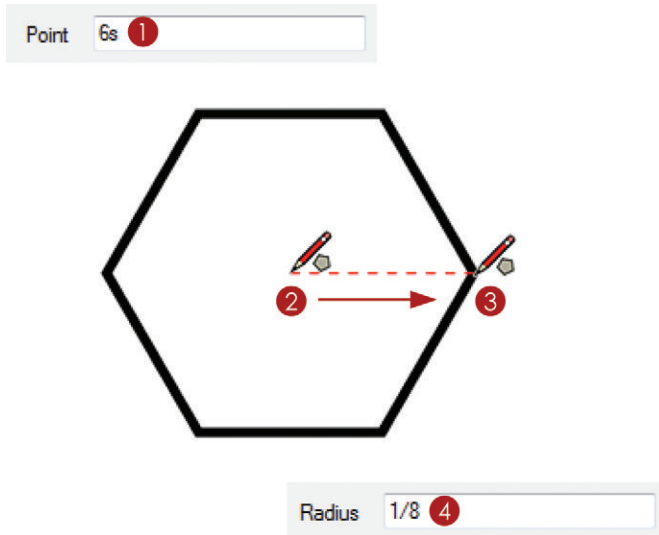

Figure 13.14 Create a precise polygon for the window tag.
1. Activate the Polygon tool, set the stroke width to .5, and turn off the Fill. Assign the number of sides by entering **6s**, then press Enter (Figure 13.14).